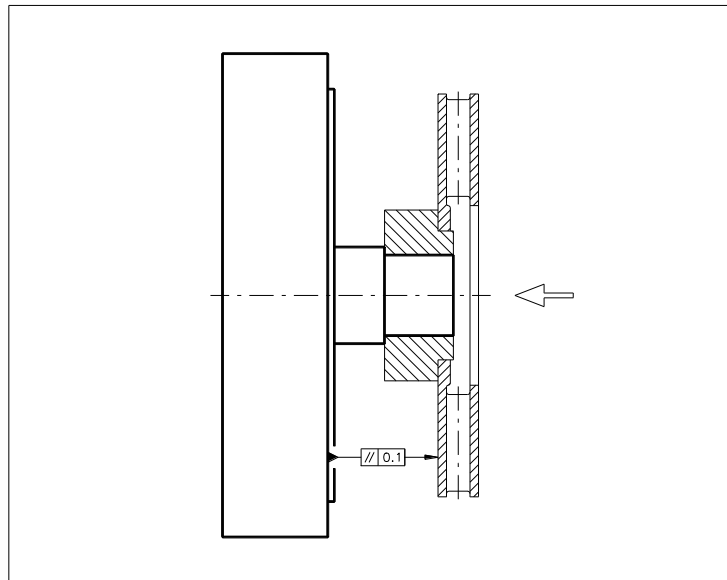

Figure 1
3. Install the hub, complete with self-ventilating disc, on the shaft of the machine. Lock it in position axially to prevent slipping on the shaft (Figure 1). Check that the distance between the shoulder of the machine and the disc/hub is as specified in the assembly drawing of Chapter 5.2. Also make sure that between the machine shoulder and the disc the gap is not greater than 0.1 mm, as indicated in Figure 1.